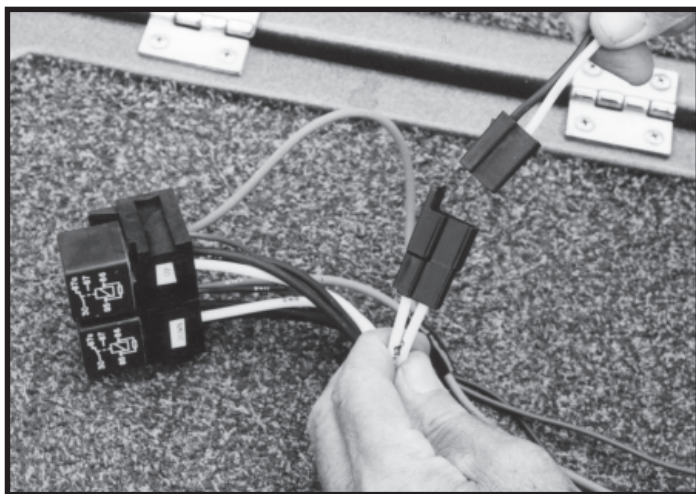

FIG. 21
Step 12: Connect the 2-wire male connector from the hydraulic power unit to the female 2-wire connector at the end of the wire assembly. (Fig. 21)